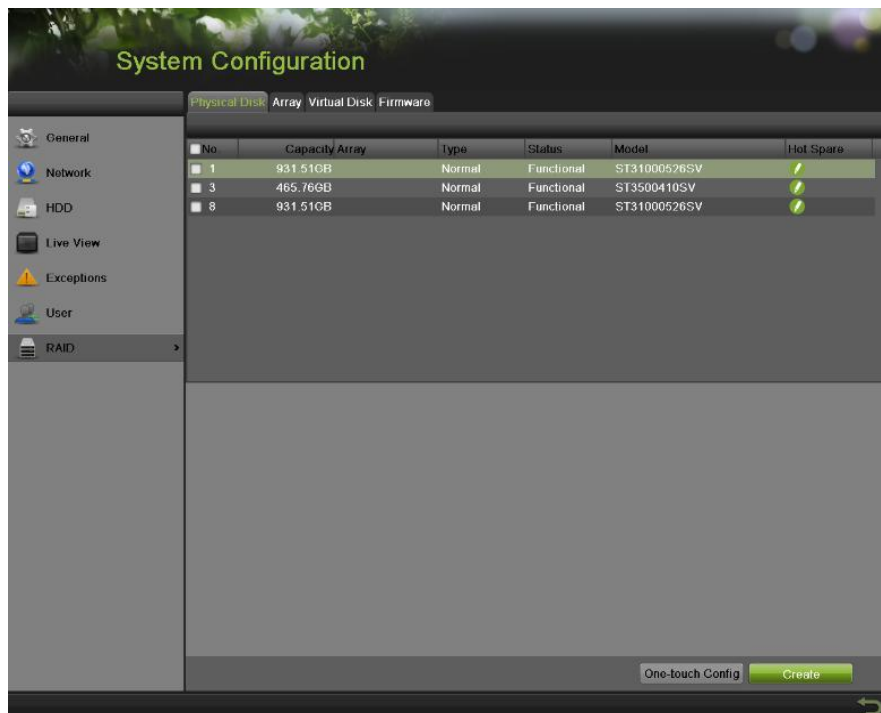

Figure 126 Physical Disk Settings Menu
1. Enter the Physical Disk interface by going to Menu > System Configuration > RAID > Physical Disk, as shown in Figure 126.